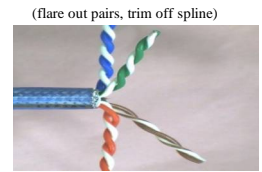

Figure 3a (568A shown)
- 3) Align the wires into the desired pin-out configuration and install wires into the load bar, (Figs 3a, 3b). If necessary, wire ends can be cut slightly shorter (up to 0.05") to facilitate easier entry into the load bar. Position the load bar front edge at 0.85" from Cut A (Fig 3a). Trim off wire ends at Cut B, flush with the end of the load Bar @ 0.85" from Cut A (Fig 3a).